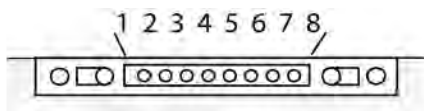

Figure 4: Connection socket for external buttons
- Attach the button cable to the "**Ext.**" connection (8). Observe the pin assignment (figure 4).